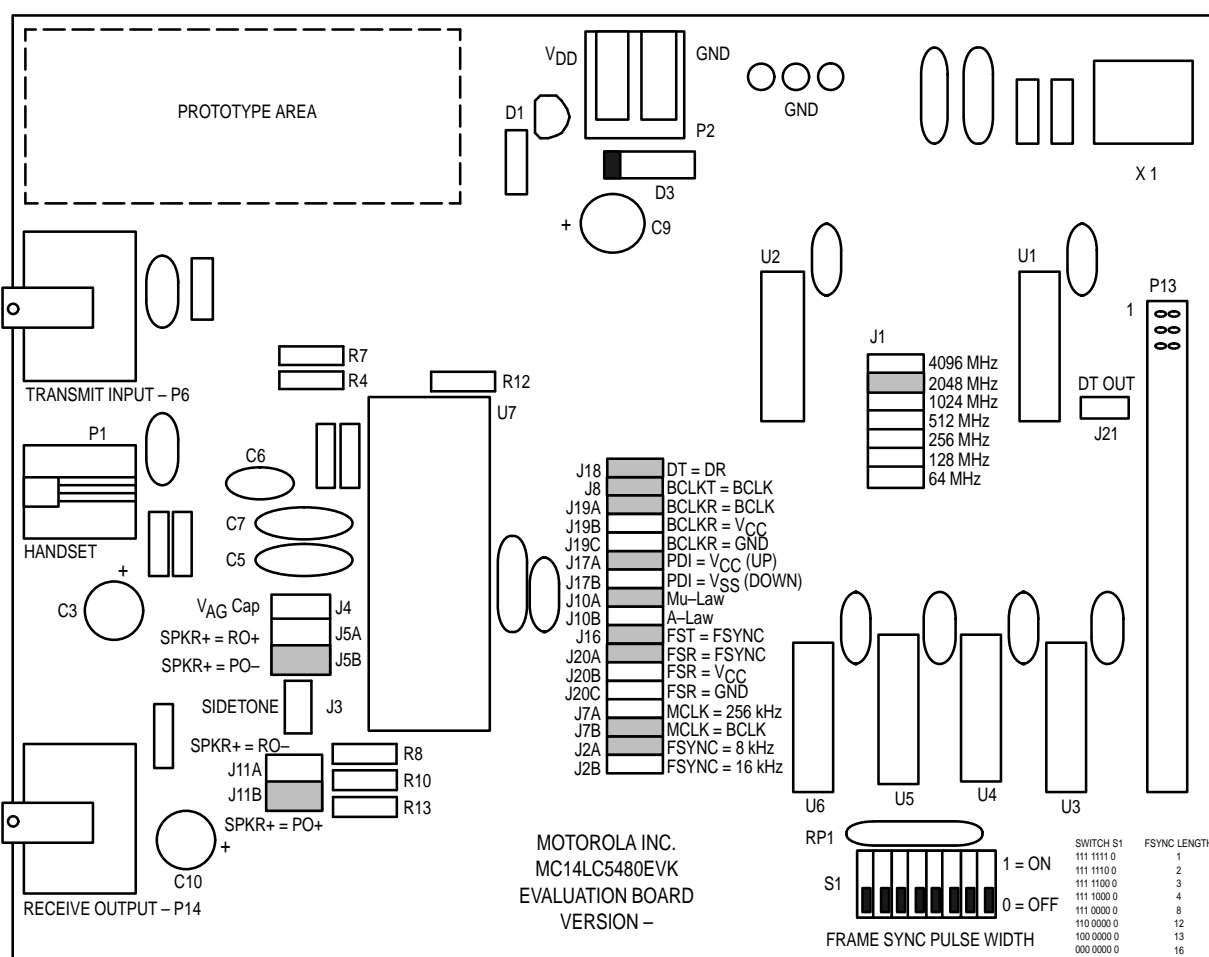

Figure 3–1. Jumper Positions for Standalone Operation
Figure 3–1 indicates the proper position of jumpers to operate the MC14LC5480EVK “standalone”. The “darkened” areas indicate the position of a populated jumper. Signal flow for the standalone mode as indicated in Figure 3–1 is as follows. A signal input at P4, Transmit Input, is presented to the encoder of the MC14LC5480 where it is digitized and output on the Data Transmit (DT) pin (Jumper J18). This provides a “local loopback” of PCM data to the Data Receive (DR) pin of the MC14LC5480, where it is reconstructed and output at P14, Receive Output.